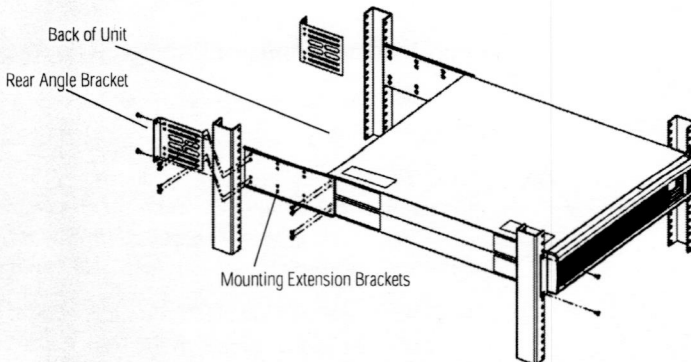
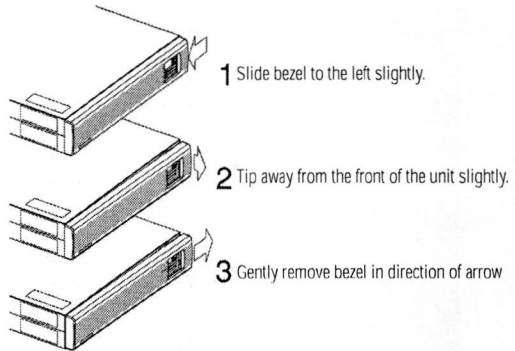

Fig. 9: Attaching the Back Angled Brackets
Fig. 10: Removing Front Bezel
4. Place the two large angled mounting brackets at the rear rack support rails with the long sides facing inward (fig. 9). Secure with four (4) rack fasteners (not provided). The ON2000 Universal Mount uses eight (8) fasteners (not provided).
6. Mounting extension brackets are flat with a small lip along each long side. The lip should face away from the cabinet. Attach one to each side of the cabinet using four (4) of the #6-32 screws, provided, through the four (4) round clearance holes (fig. 9) and tighten securely.
For the ON2000, attach two mounting extension brackets to each side of the cabinet using eight (8) of the #6-32 screws, provided, through the eight (8) round clearance holes and tighten securely. See figure 10.
8. Secure the ears of the front brackets to the front side of the rack posts with four (4) rack fasteners (not provided). The ON2000 Universal Mount uses eight (8) fasteners (not provided).
9. Secure each rear angled mounting brackets to the cabinet or extension brackets with four (4) of the #6-32 screws provided, eight (8) for the ON2000 Universal Mount (fig 9). Tighten securely.
1. Slide the bezel to the left (bottom) slightly, tip away from front of the unit slightly and then gently pull away from the UPS in direction of arrow (see fig. 10, number 3) to remove.
3. Replace the front bezel by reversing all three steps in fig 10.